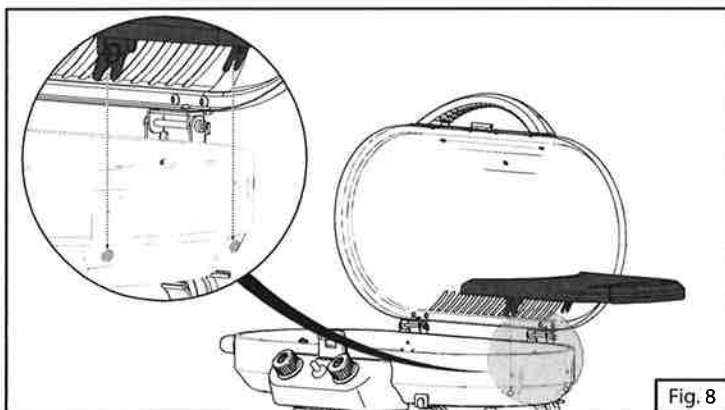

Fig. 8
5. Align and slide the side table onto the pre-assembled support pins at the right side of the grill. (Fig. 8)